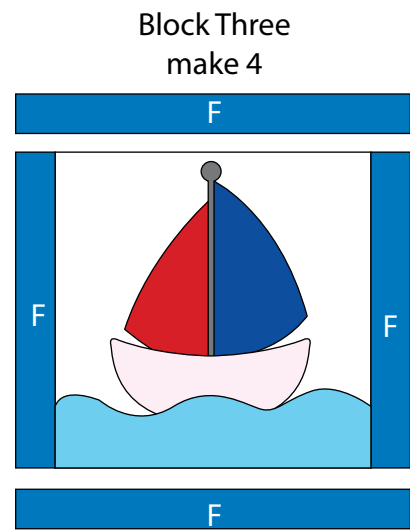

Fig. 10
14. Sew (1) $1\frac{1}{2}$ " x $8\frac{1}{2}$ " Fabric F strip to each side of (1) Unit 3 block. Sew (1) $1\frac{1}{2}$ " x $10\frac{1}{2}$ " Fabric F strip to the top and to the bottom of the Unit 3 block to make (1) Block Three square (Fig. 10). Repeat to make (4) Block Three squares total.